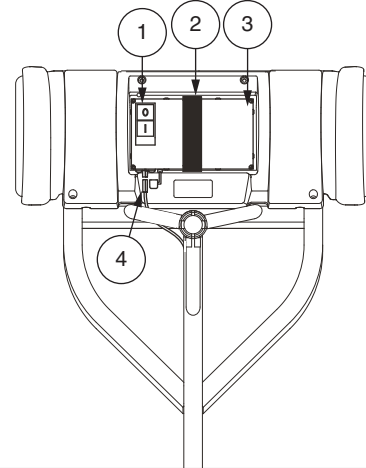

Figure 12. Battery Pack
- Push power button on battery pack to turn your scooter on. The power button also acts as the main circuit breaker. See figure 12.
Your scooter is equipped with an innovative easy-to-remove Lithium-Ion battery pack. Refer to III. “Batteries and Charging” for battery pack replacement instructions. See figures 12 and 13.
The power button also acts as the main circuit breaker. When the voltage in your scooter’s batteries becomes low or the scooter is heavily strained because of excessive loads or steep inclines, the main circuit breaker may trip to protect the motor and electronics from damage. See figure 12.